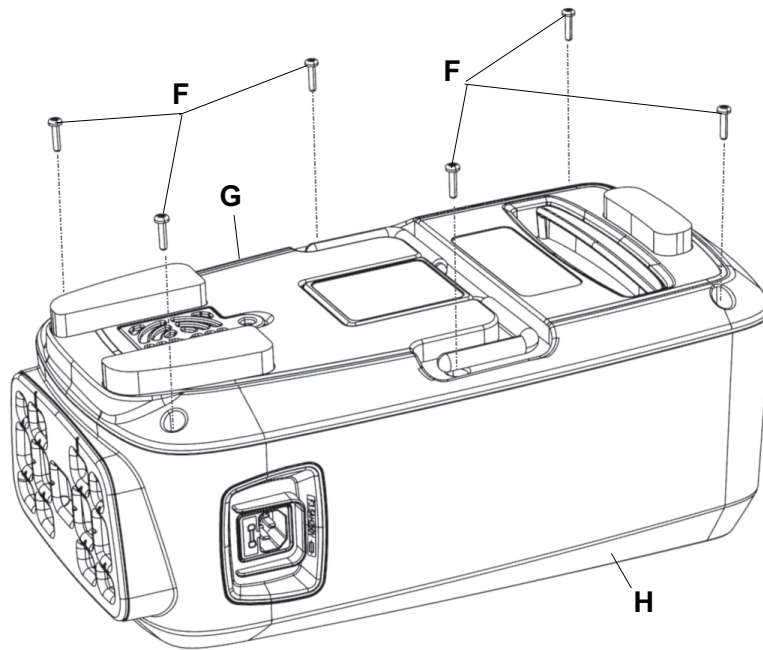

Figure 17 – Covers
4. Using a T20 Torx driver, remove the six tapping screws (F) that secure the back cover (G) to the front cover (H) (Figure 17). Save the screws.